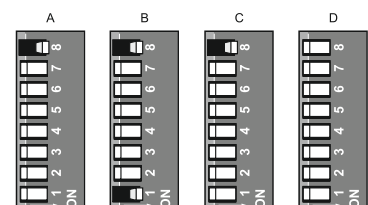

Fig. 4.1.1
2. Operate the dip switch by moving lever 8 to the **ON** position and then lever 1 as shown in Figure 4.1.1.